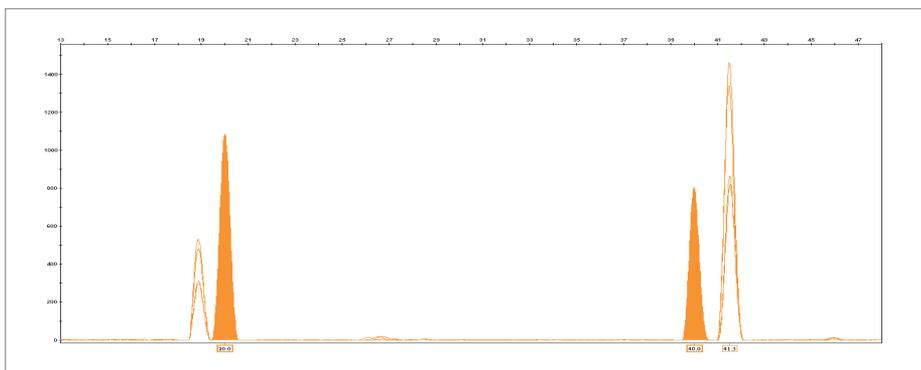

Figure 13. Example of Non-Aligned Size Standard Peaks.
2. If some peaks are not aligned (Figure 13) and adjustments are required, open the Size Match editor to edit size standard peak labels and re-analyze sample(s).
Note: Depending on the electrophoresis temperature, there may be split size standard peaks (for example, the 20 and 40 bp peaks often display as two peaks instead of one; see Figure 13). Review these peaks carefully to make sure the label assignment is consistent within the project. If this is not the case, re-assign the labels manually (using the Size Match Editor) and re-analyze if necessary.